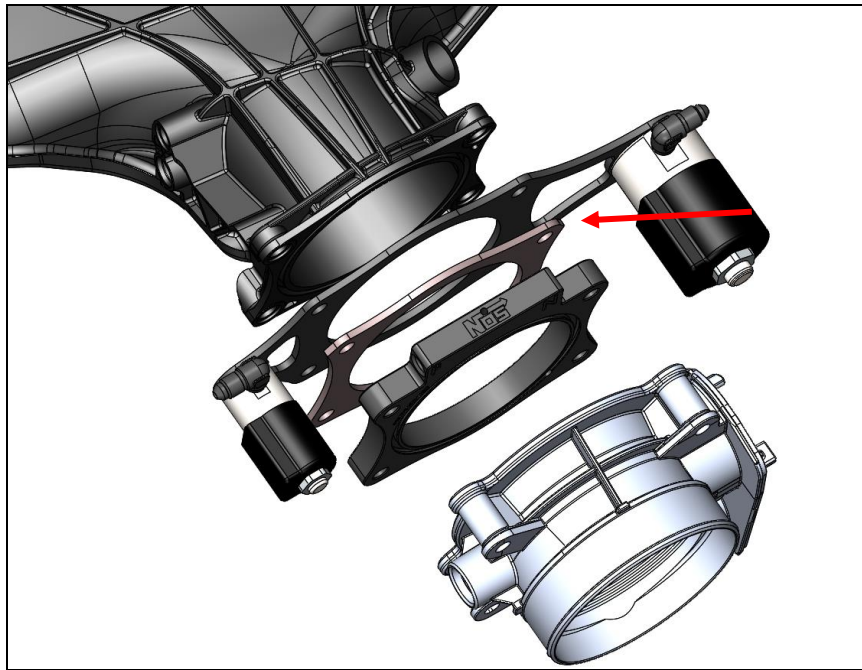

Figure 9 – Nitrous Plate & Solenoid Bracket Installation
- Install the nitrous plate and solenoid bracket assembly onto the intake manifold using the new, longer throttle body bolts as shown in figure 9. Be sure to install the included gasket between the solenoid bracket and the nitrous plate.